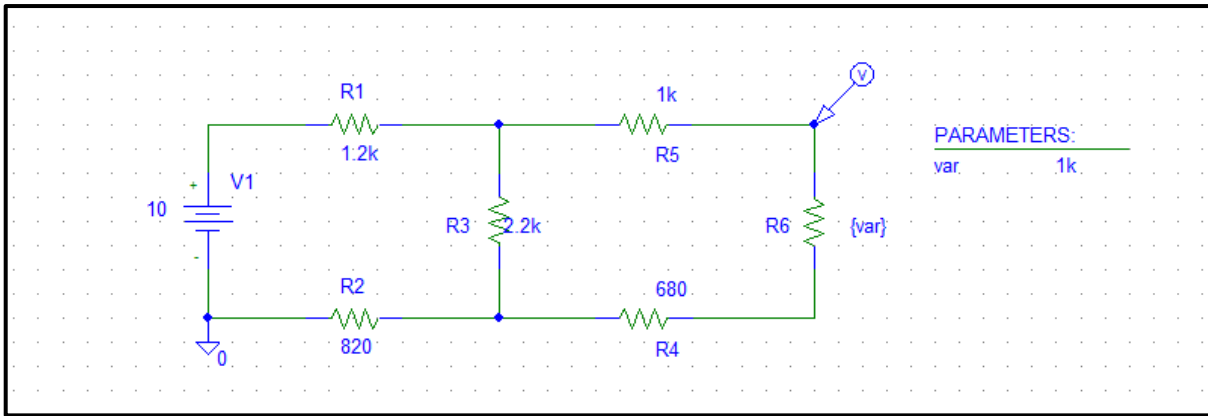

Figure.31
- Type the name of the global parameter inside curly brackets {}, as shown in figure 31.